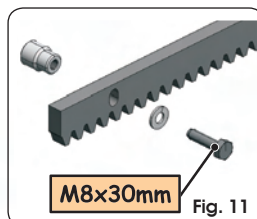
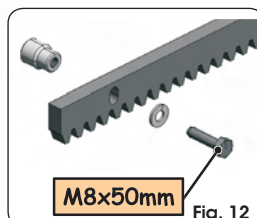
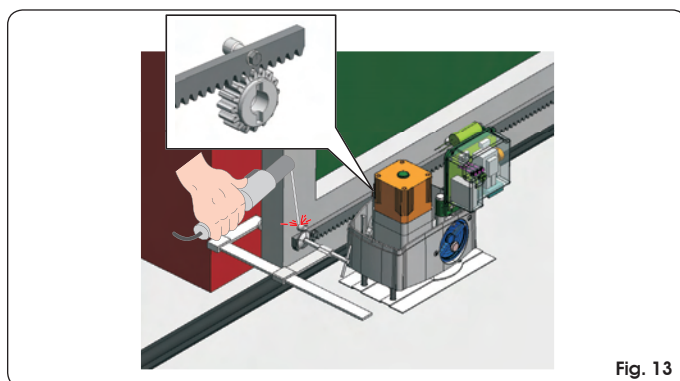
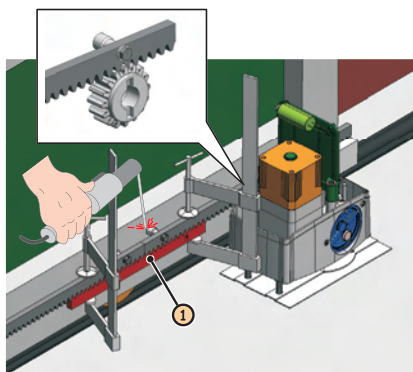

Fig. 11
Fig. 12
Fig. 13
Fig. 14
5.4.1. STEEL RACK TO BE WELDED (Fig. 11)
- ① Fit the three threaded pawls on the rack element, positioning them on the upper part of the slot. In this way the clearance on the slot will enable any adjustments long-term.
- ② Manually move the leaf to its opening position.
- ③ Lay the first piece of rack level on the pinion and weld the threaded pawl on the gate as shown in Fig. 13.
- ④ Manually move the gate, checking if the rack is resting on the pinion and weld the second and third pawls.
- ⑤ Fit another rack element next to the previous one, using a piece of rack, as shown in Fig. 14 ref. ①, to synchronise the teeth of the two elements.
- ⑥ Move the gate manually and weld the three threaded pawls. Carry on like this until you have fully covered the gate.
5.4.2. STEEL RACK TO BE SCREWED (Fig. 12)
- ① Manually move the leaf to its opening position.
- ② Rest the first section of rack on the pinion, positioning the spacer between the rack and the edge of the gate. Using a spirit level, check if the rack is horizontal and mark the perforation point with a felt-tipped pen.
- ③ Drill with a 6.5 mm diameter bit, and thread with an M8 male element. Screw the bolt.
- ④ Manually move the gate, checking if the rack is resting on the pinion and repeat the operations in point ③.
- ⑥ Move the gate by hand and perform the securing operations as for the first element, carrying on like this until you have covered the gate completely.